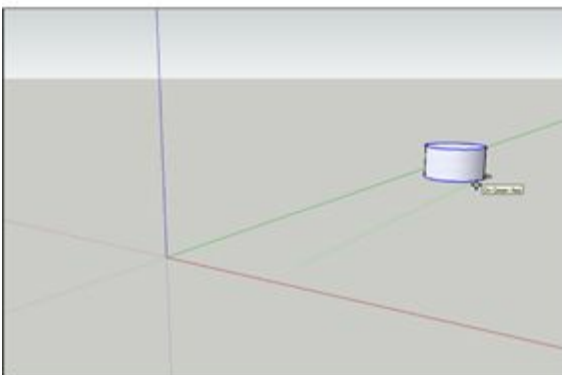

FIGURE 3-11: The axes help you create 3D models on a 2D screen.
- » **The colored drawing axes help you tell SketchUp what you mean.** For example, in Figure 3-11, moving the cylinder in the blue direction and the green direction both involve moving the cursor up. The drawing axes help SketchUp know whether you want to move the cylinder *up* in space (above the ground) or *back* in space.